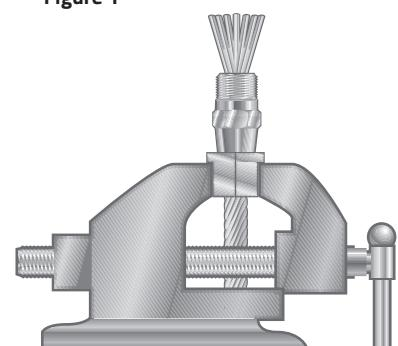

Figure 2
**STEP 3:** **Unlay the rope.** (Figure 2) Gently force a screwdriver between the strands to unlay the rope. When done correctly, the strands will form a symmetrical basket. Do not straighten the spiral lay of the strands, unlay any wires that make up the strand, or allow the strands to cross each other inside the sleeve.